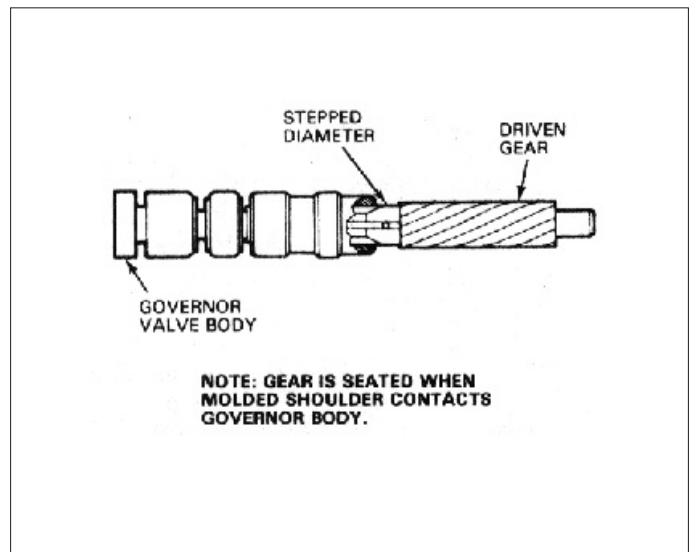

Figure 3
3. Align the new driven gear to the governor body driven gear bore. Press the new driven gear into the body as far as possible by hand (Figure 3).